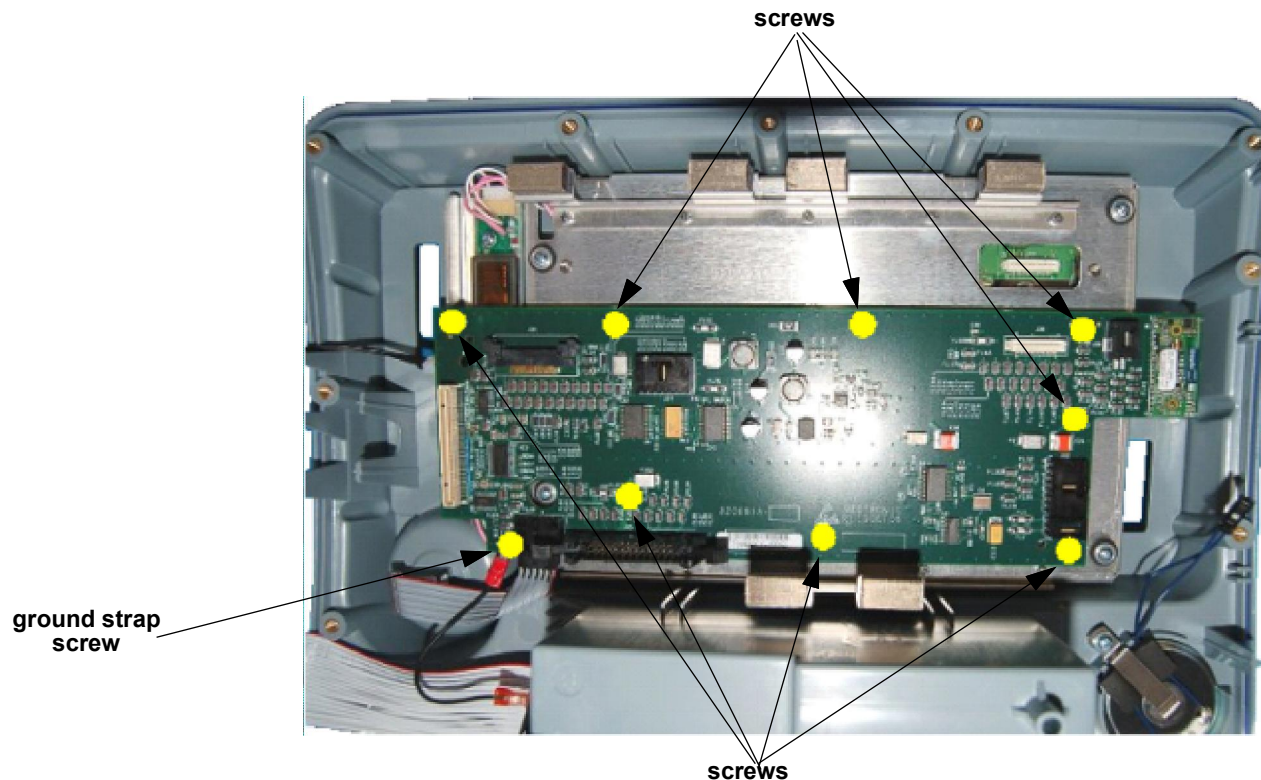

Figure 8.10—Interface PCB screw locations
5. Remove the eight remaining screws (REF F08) (see Figure 8.10 on p. 189). Discard the screws.
1. Attach the interface PCB to the bracket with the eight new screws (REF F06); torque to 6.8 in-lb (see Figure 8.10 on p. 189).
2. Install the ground strap (W19) with one new screw (REF F06); torque to 6.8 in-lb (see Figure 8.10 on p. 189).